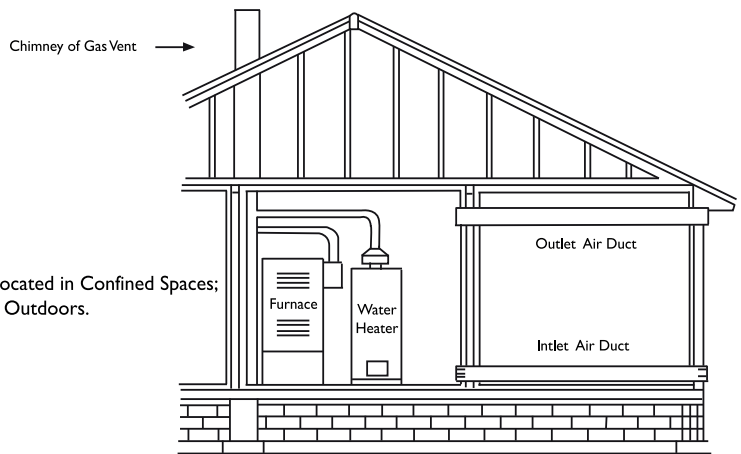

FIGURE 8
I. When communicating with the outdoors through horizontal ducts, each duct opening shall have a minimum free area of 1 square inch per 2,000 BTU per hour of total input rating of all equipment in the enclosure (Figure 8).